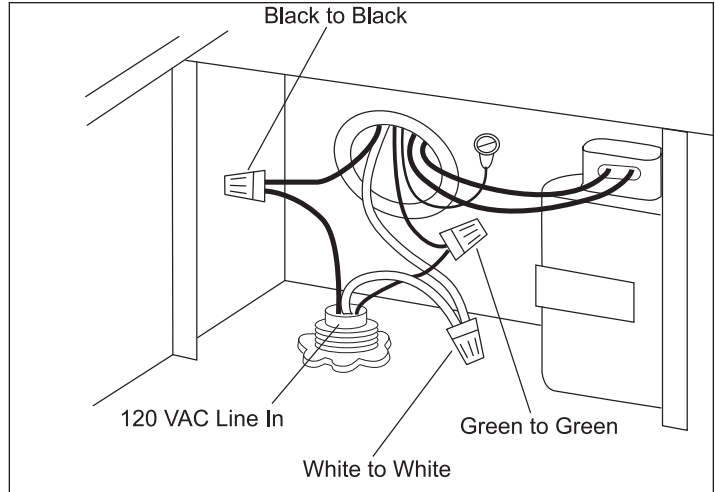

Figure 2-50 Remote Blower Connection
2. Connect the downdraft wiring to the power cable from the remote blower. Wire black to black, white to white and green to green or bare wire. (See Figure 2-50)